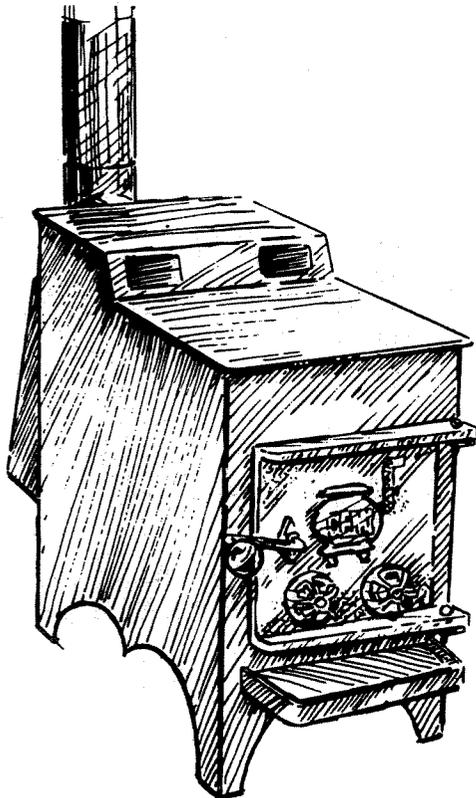

Fig. 58. Independence step stove.
3. **Contractor Equipment Manufacturers Inc.** (manufacturer), P.O. Box 290, Ashland, OH 44805. The Independence (Fig. 58 and Table 6) features a "unique smoke-heat baffle system, and unique 210 ft³/min dual blower system."